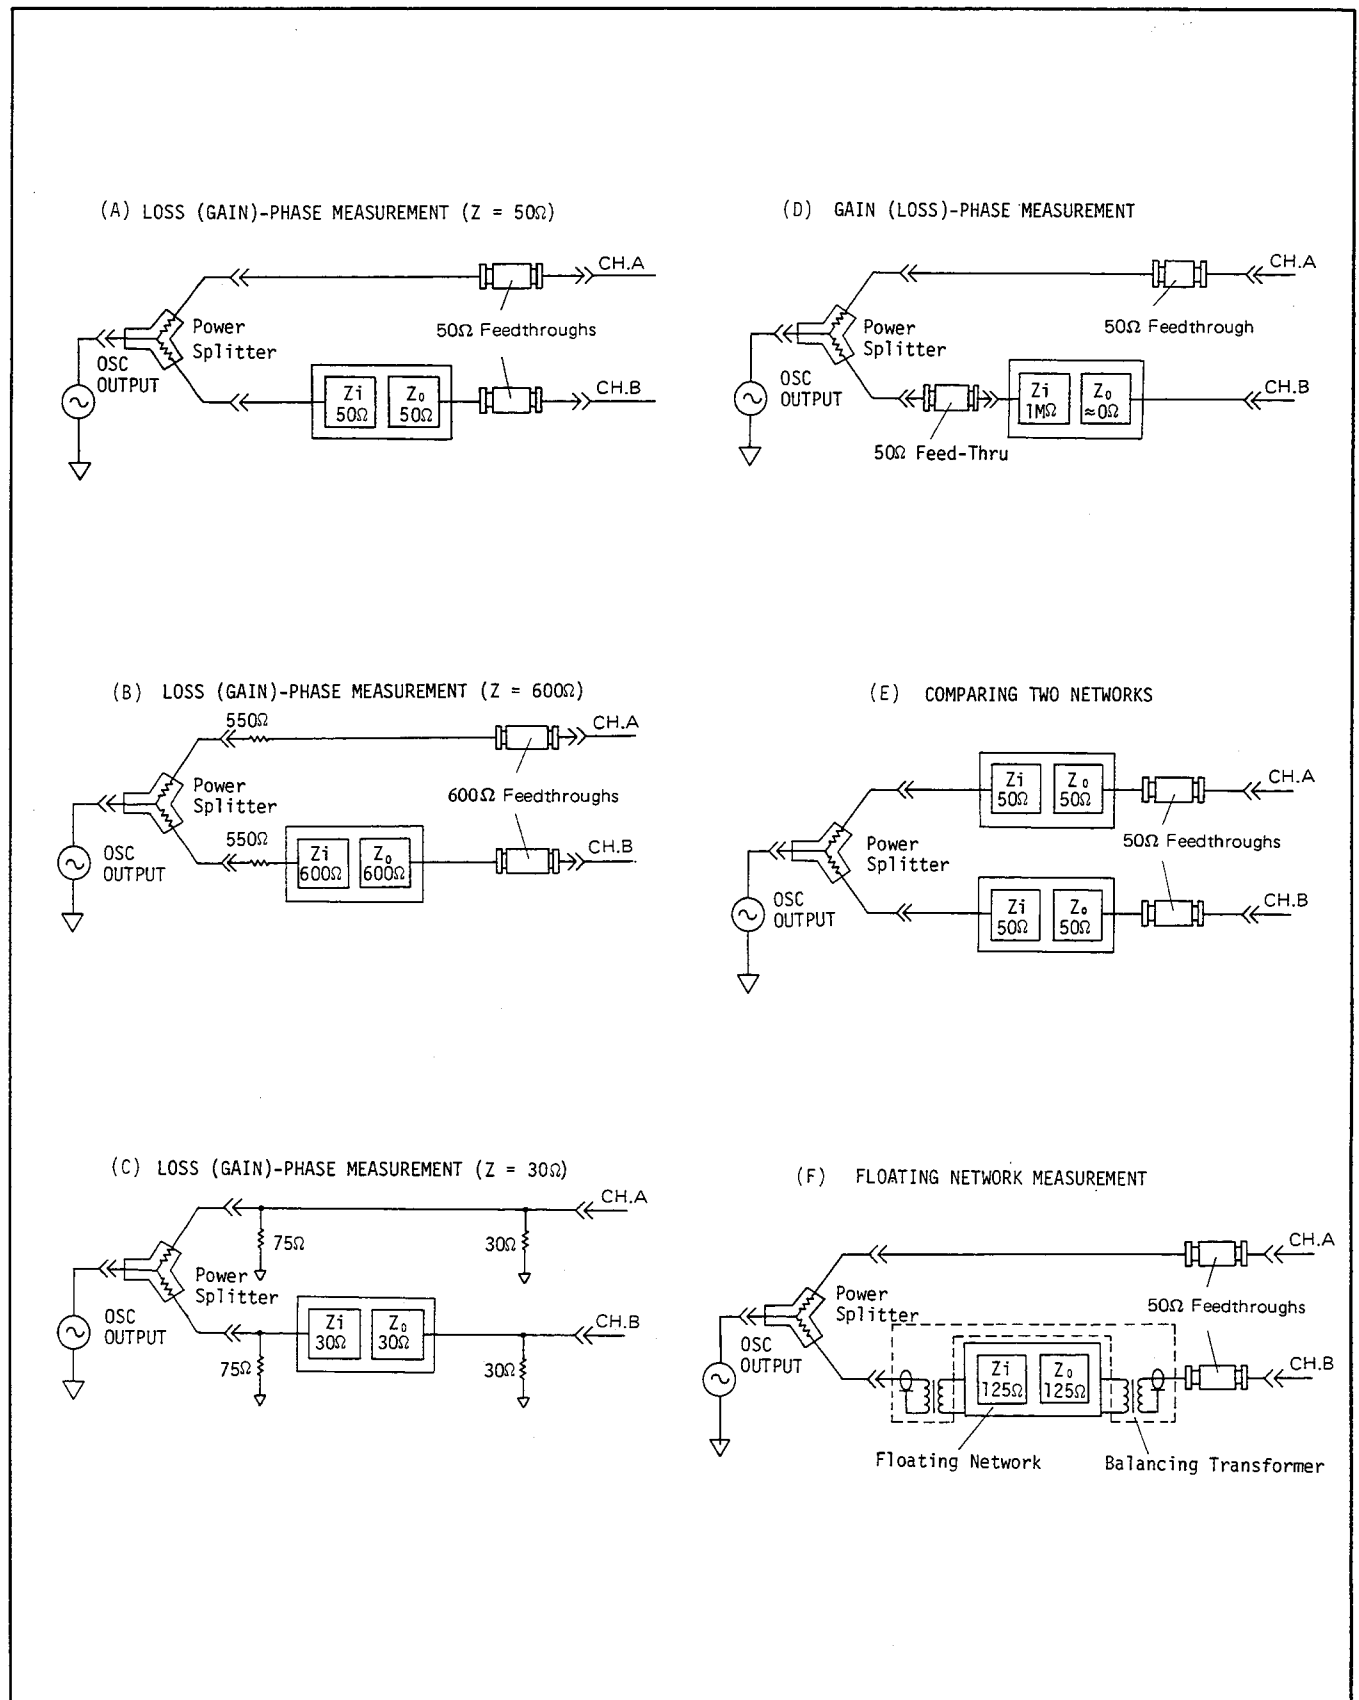

Figure 3-8. Input Configurations
3-47. Figure 3-8 illustrates and describes the basic input configurations for various types of measurements. Connections of these input configurations should be made using coaxial cables with BNC connectors as listed in Table 3-9. When making input connections, observe the following guidelines:
Note: When making a relative gain/loss (B-A) measurement with either the 4192A or a Network Analyzer using the input configurations shown in Figure 3-8, the measurement results are the same but those of an absolute amplitude (A/B) measurement may differ. This is because the 4192A uses a passive (2-resistor) power splitter and the Network Analyzer uses an active power splitter.
3-49. In most measurement applications the network under test must be driven and terminated in its characteristic impedance. If the characteristic impedance of the network matches the 50Ω output impedance of the 4192A OSC OUTPUT, the network can be connected directly to the OSC OUTPUT through the power splitter as shown in Figure 3-8 (A). In this case, both the reference input and test input should be terminated with a 50Ω Feedthrough and connected to CHANNEL A and CHANNEL B, respectively.
3-50. If the characteristic impedance of the network is greater than 50Ω , a compensating resistor can be added in series with the OSC OUTPUT between the power splitter and the network to obtain the required output impedance. For example, if the input impedance of the network is 600Ω , a 550Ω resistor can be added in series with the 50Ω output to obtain the required 600Ω as shown in Figure 3-8 (B). Note that the reference input shown in Figure 3-8 (B) also has a compensating resistor to maintain identical impedances in both channels. In this case, both the reference input and test input should be terminated with a 600Ω Feedthrough and connected to CHANNEL A and CHANNEL B respectively.
For example, if the input impedance of the network is 30Ω , a 75Ω shunt resistor can be added in parallel with a 50Ω output to obtain 30Ω as shown in Figure 3-8 (C). Note that the reference input shown in Figure 3-8 (C) also has a shunting resistor to maintain identical impedances in both channels. In this case, both the reference input and test input should be terminated with the 30Ω shunt resistor and connected to CHANNEL A and CHANNEL B, respectively. When driving an impedance lower than 50Ω , a certain amount of insertion loss will be encountered. The amount of loss depends on the type of impedance matching network used and on the various impedance ratios. Whenever a loss is encountered, an equal loss should be introduced in CHANNEL A so that the reference input accurately represents the input of the network. This can be accomplished by placing identical shunt resistances and identical terminations in both channels.
3-52. When the network to be tested has a high input impedance ($1M\Omega$) and low output impedance ($\approx 0\Omega$), each channel should be terminated with a 50Ω Feedthrough and then the network can be connected to CHANNEL B as shown in Figure 3-8 (D).
3-53. Deviation measurement from reference network can be performed by inserting the standard network between the power splitter and CHANNEL B. Figure 3-8 (E) shows an input configuration of networks which have 50Ω characteristic impedance. In this case, both the
3-54. Floating networks can be measured by floating from the measuring circuit using a balancing transformer. Figure 3-8 (F) shows the input configuration of a network which has 125Ω characteristic impedance. In this case, both the reference input and test input should be